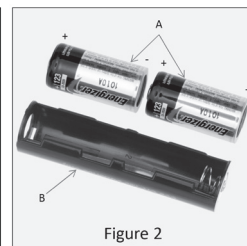
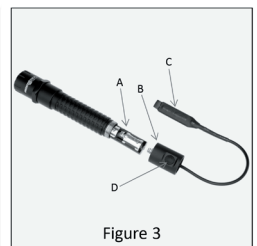

Figure 2
Figure 3
2. Install the two included CR123 batteries (Figure 2-A) into the battery carrier (Figure 2-B). The positive terminals on each battery should be oriented in the direction of the arrow on the battery carrier and then inserted into the flashlight with the + end terminals pointing in the direction of the flashlight's bezel (Figure 3-A).
3. Install the Remote Pressure Switch (RPS) cap and tighten into place (Figure 3-B).
4. Test the operation of the RPS (Figure 3-C) and the side switch (Figure 3-D). See section titled Operation for how the switches work.